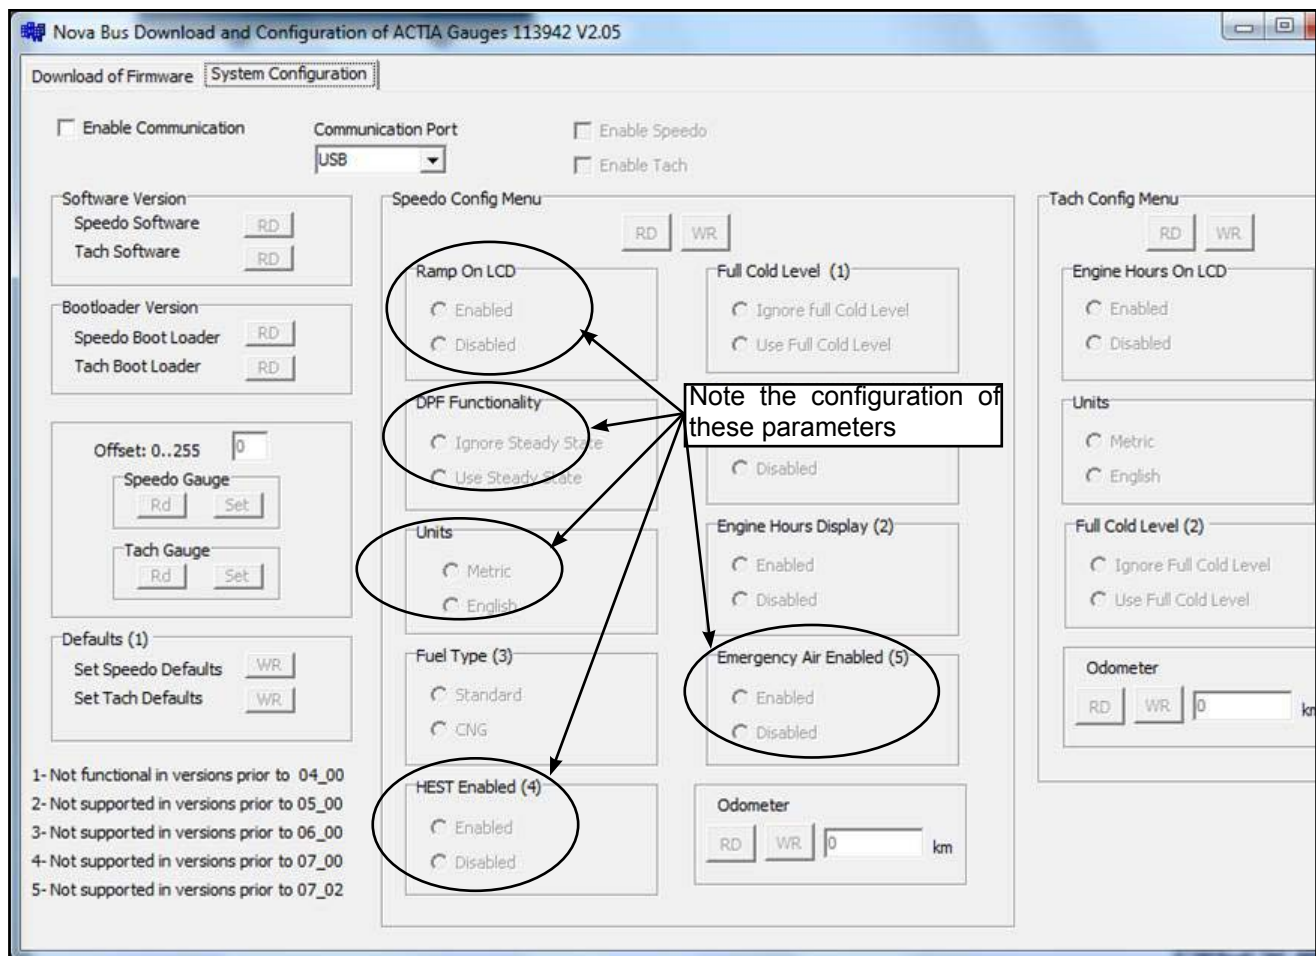

Figure 10 - Note the Configuration
3.1.5 Note the configuration of the following parameters: Ramp On LCD, DPF Functionality, Units, HEST Enabled, and Emergency Air Enabled. This configuration will be required in step 3.1.15 (see Figure 10).